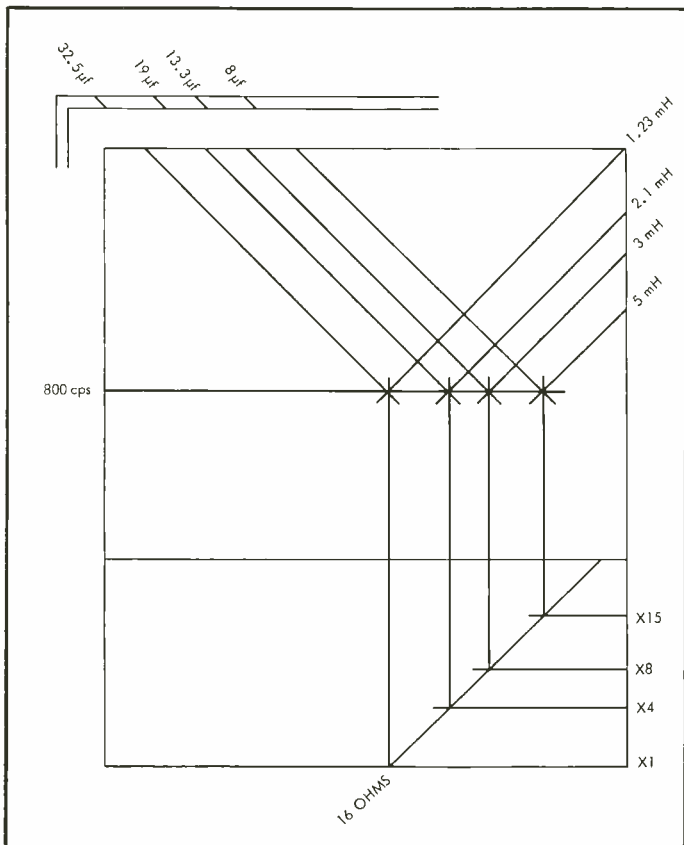

Fig. 5. Illustrating how the chart of Fig. 3 is used to calculate values for a crossover of the type shown in (H) of Fig. 4.
which still states that a pair of sidebands are symmetrically located about the subcarrier frequency,  $\omega_c$ . The process of multiplying the local reference subcarrier to the received sideband signal is shown in Fig. 5 with these results:
The chart of Fig. 3 provides for calculating all the crossover elements, in terms of the reactance coding shown on Fig. 3. Values for networks (A) through (F) use references at the left, while values for (G) and (H) use references at the right of the chart. For example, suppose a 16-ohm horn system uses an 800-cps crossover of the 24-db/octave variety and configuration (H). It uses reactance elements  $X_1$ ,  $X_3$ ,  $X_8$  and  $X_{15}$ . Figure 5 shows how the chart is used to obtain the values shown in the circuit of Fig. 6.